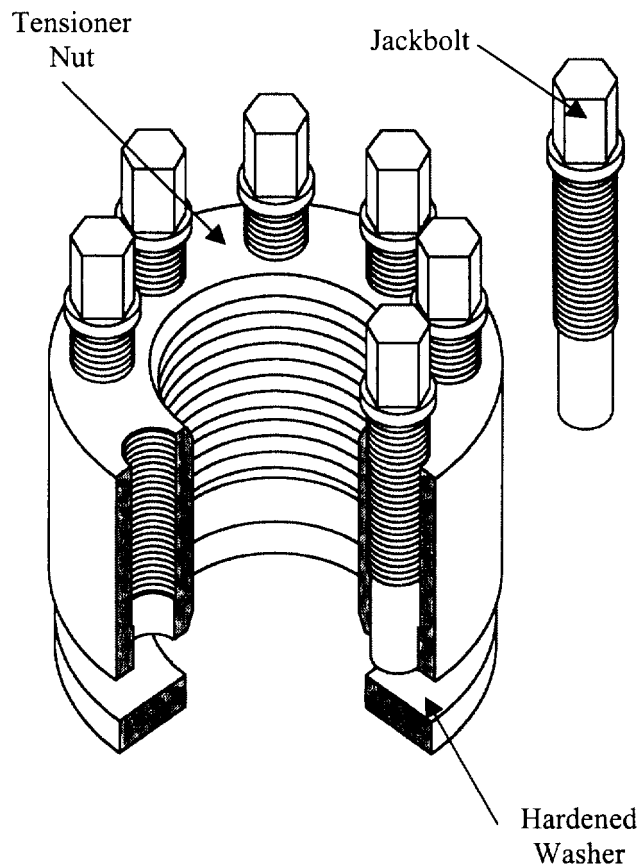

Figure 075-2-17. Multi-Jackbolt Tensioner (MJBT) Nut Body.
**075-2.9.4 MULTI-JACKBOLT TENSIONER (MJBT).** Multi-jackbolt tensioners, or MJBTs, (see Figure 075-2-17) are a substitute for nuts that are difficult to preload. Conventional fasteners are preloaded by tightening the nut, which can be difficult when the fastener is large or access to the fastener is restricted. MJBTs are preloaded by extending the jackbolts through the nut body, which can be done using hand tools.